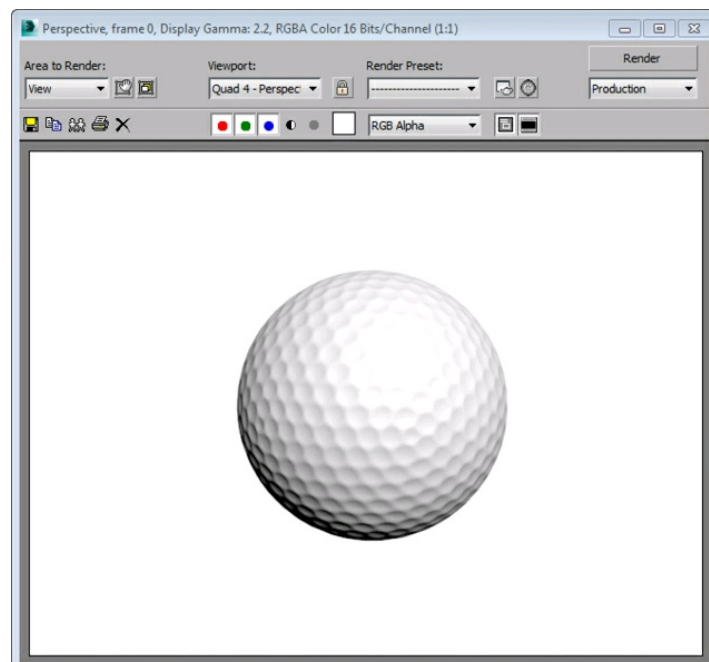

Figure 8-121 The final output
3. Choose the **Render Production** tool from the **Main Toolbar**; the **Rendered Frame** window is displayed. This window shows the final output of *golf ball*, as shown in Figure 8-121.